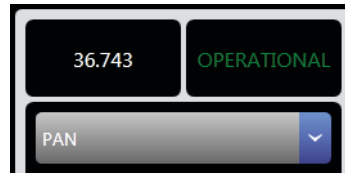

Figure 87 - Axis Status Area of the Axis Control Panel
2. In the **axis status area** (Figure 87), view the axis position and the operational status.